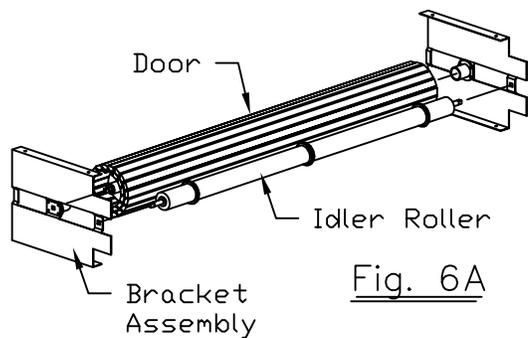

Fig. 6A
6. Tightly roll door back up, place a piece of tape to hold door in tightly rolled position. Re-assemble door and idler roller onto bracket assemblies. (Fig. 6A)